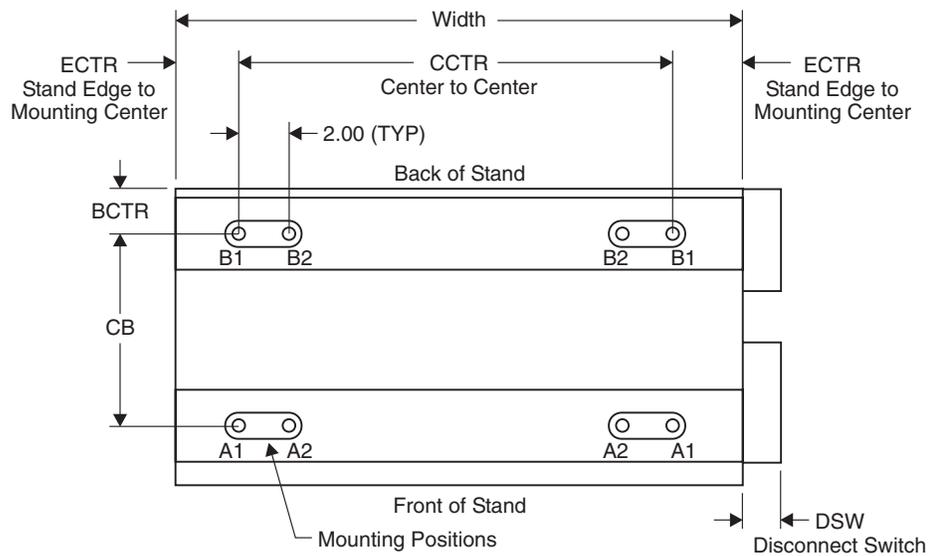

Figure 6-1: Typical Battery Stand Footprint
2. Remove stand, and drill holes for the anchors specified for the application. Holes should be drilled in preferred anchor positions shown in Figure 6-1 designated as A1 and B1. Anchor positions A2 and B2 should only be used when interference with floor reinforcing bars occurs.